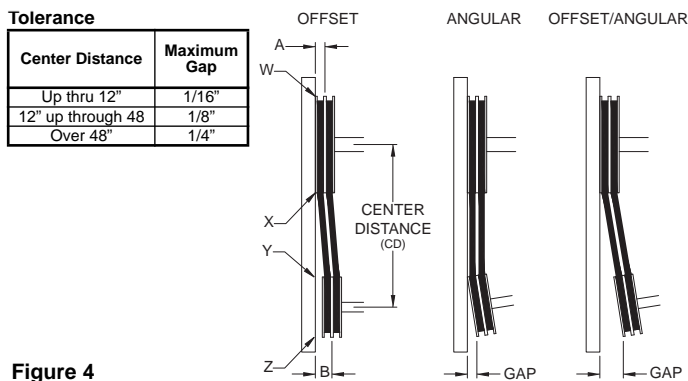
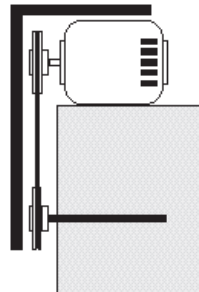

Figure 4
Figure 5
- Ensure pulleys are properly aligned. Refer to Figure 4.
Figure 4 indicates where to measure the allowable gap for the drive alignment tolerance. All contact points (indicated by WXYZ) are to have a gap less than the tolerance shown in the table. When the pulleys are not the same width, the allowable gap must be adjusted by half of the difference in width. Figure 5 illustrates using a carpenter's square to adjust the position of the motor pulley until the belt is parallel to the longer leg of the square.